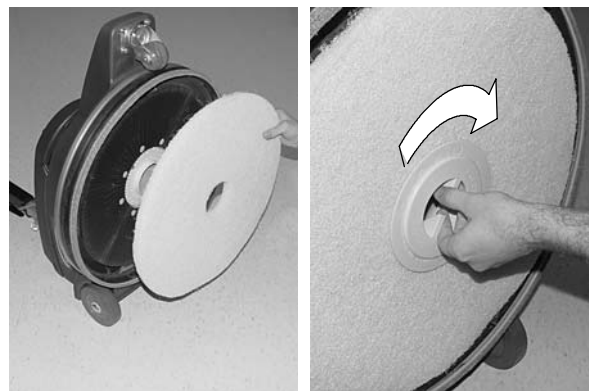

FIG. 2
4. Remove plastic centerlock by turning lock counter-clockwise. Position pad centered on pad driver and replace centerlock securely (Figure 2).